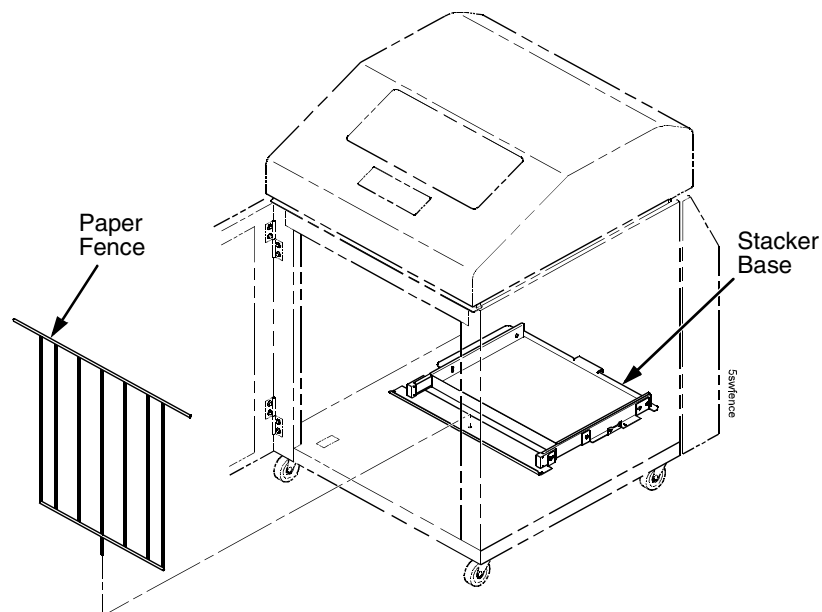

Figure 73. Removing the Paper Fence
5. Cut the tie wrap (if present) and remove the paper fence. (Figure 73.)